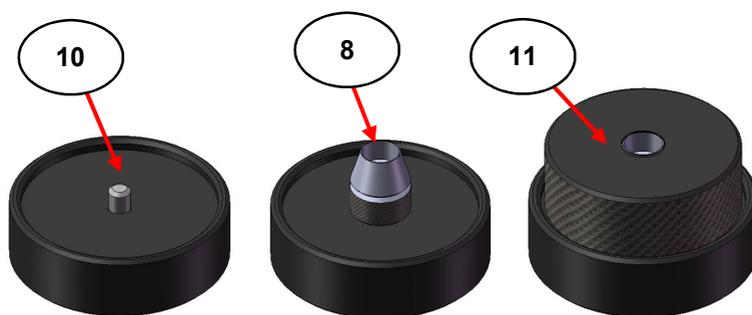

Fig 7. Sample Cup Filling Sequence Using Sample Filler Parts
The sequence for filling a sample cup (8) is as follows. Take the sample filler base (10) and place it on a flat surface. Position an empty sample cup (8) over the central location pin of the sample filler base (10). Now position the sample filler cap (11) over the base (10) with cup (8), such that the top edge of the cup (8) is flush level with the top surface of the cap (11). (See Fig 7.)